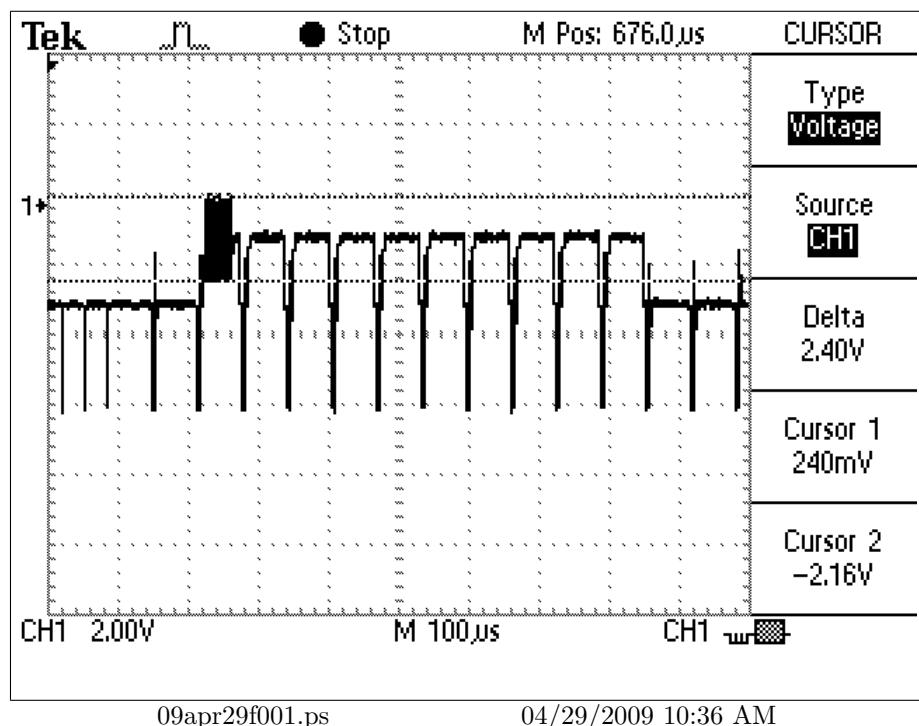

Figure 20: Converter data Peak-Peak voltage
- 11.2 The converter uses a signal that is about 240 mV P-P. (Figure 20, page 23)